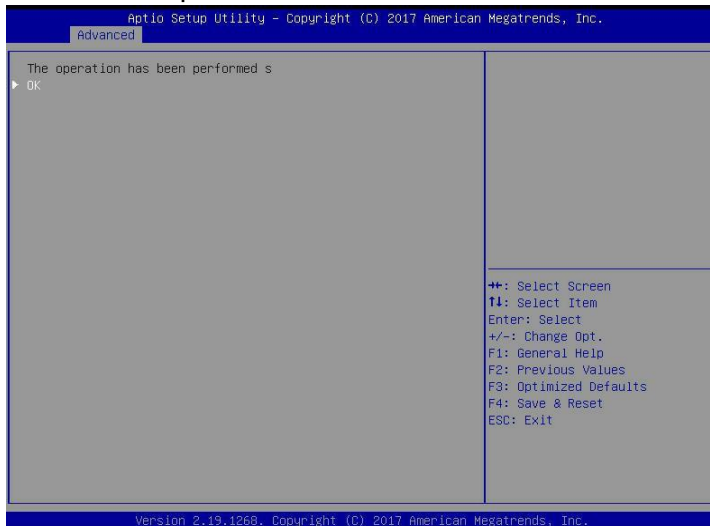

Figure 6-54
f) Enter the interface shown in Figure 6-54 to complete the RAID deletion operation.
✧ Figure 6-54 Completed RAID deletion